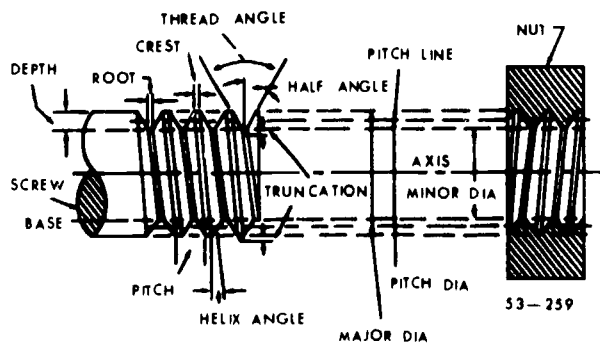

Figure 5-38 Thread parts
**Threading Terms.** To be able to understand threads and threading operations, you must know the meaning of certain terms. Figure 5-38 will help you to understand the following definitions.